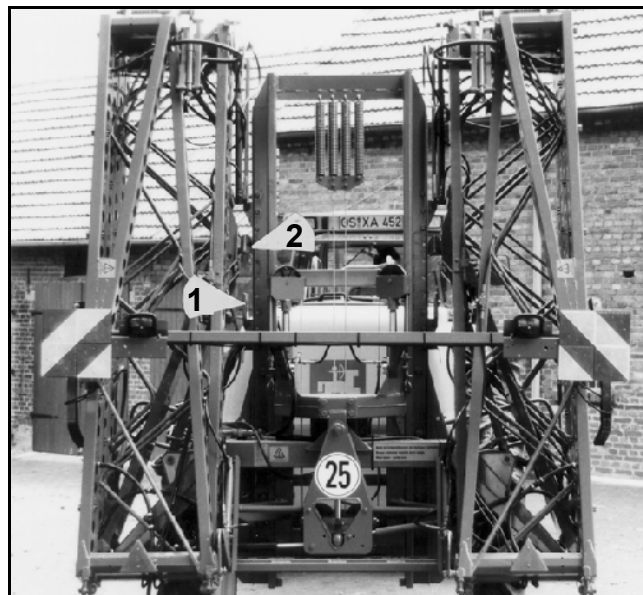

Fig. 112
- Lift the sprayer boom via height adjustment until the transport latches (Fig. 112/1) are released from the pockets (Fig. 112).